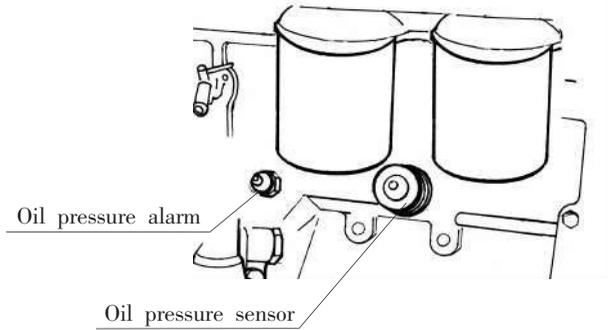

Fig 5-55 Oil Pressure Alarm System
8.2 Oil pressure alarm: optional device. Oil pressure alarm is connected with the oil pressure alarming system, and installed in the main oil gallery on left side of cylinder body (see Fig 5-55).